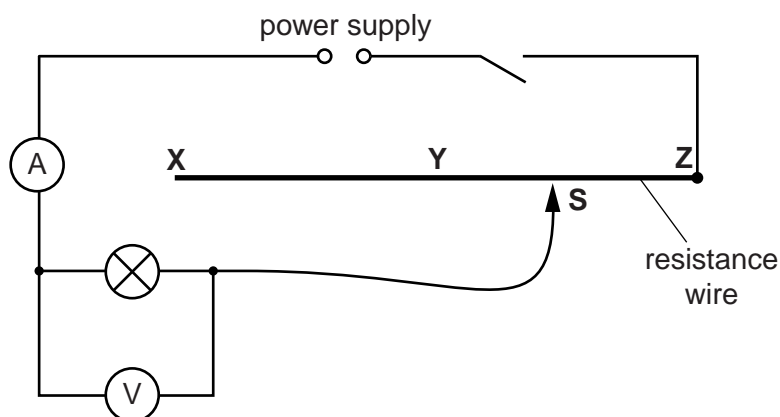

Fig. 3.1
- (ii) A lamp in a suitable holder. Any low voltage lamp will suffice, provided that it glows when connected as shown in Fig. 3.1, with the sliding contact at point **X**.
- (ix) Sufficient connecting leads to construct the circuit shown in Fig. 3.1, with two spare leads.
1. The components are to be connected by the Supervisor as shown in Fig. 3.1.
Check that the circuit is arranged as shown in Fig. 3.1.